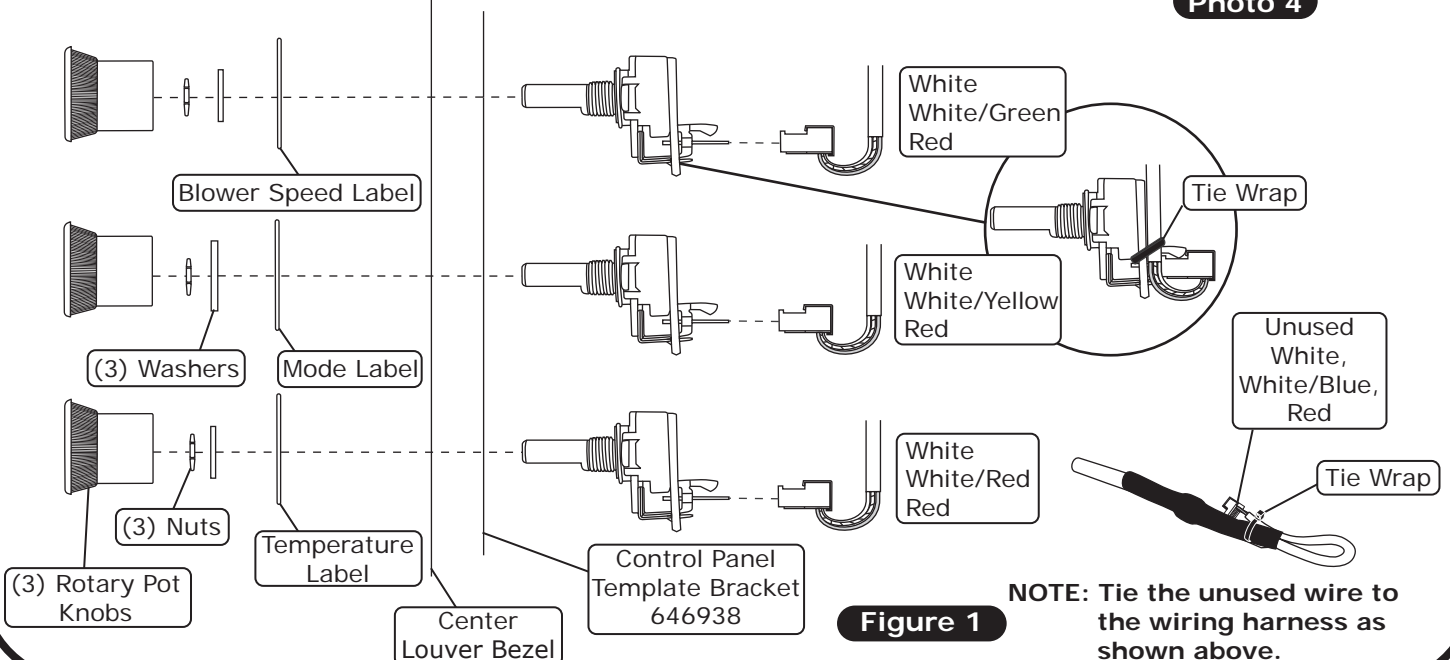

Figure 1
1. Locate the control panel template bracket and the center louver bezel. Place the template into the bezel with the small holes toward the bottom of the louver, and slide the bracket all the way to the end. Secure the bracket using clamps or a vise grip. **NOTE: Protect the front of the bezel where the clamps are attached to avoid scratching the plastic.** Using the bracket as a template, drill (3) 19/64" and (3) 5/32" holes (See Photo 1, below).
2. Install the (3) labels as shown in Photo 2, below.
3. Install the (3) rotary pot assemblies into the back side of the bracket/template. Insert the notch of the rotary pot into the small hole and secure it into the louver and bracket using the washer and nut provided on each control (See Photos 3 and 4, below).
4. Install the wiring harness onto the rotary pot assemblies and secure using (5) small tie wraps as shown in Figure 1, below.